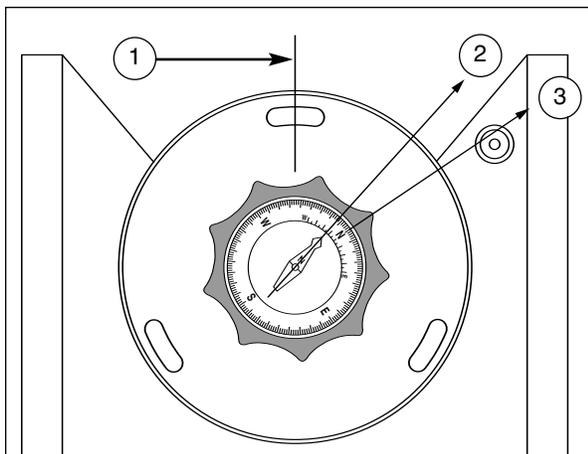

Fig. 8: Ultrawedge. (1) Centerline of Wedge; (2) Magnetic North; (3) True North.
- Rotate the knob/compass so that the magnetic pointing arrow lies directly over the painted black orientating arrow (Fig. 8). The "North" position on the direction scale (and the point on the knob/compass) now point directly north.